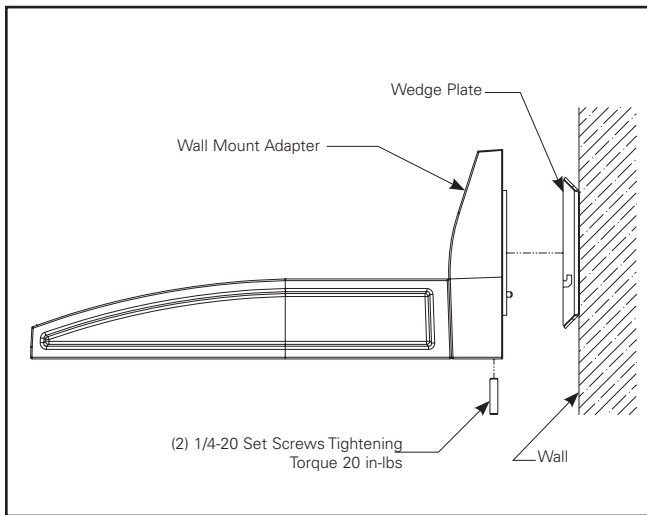

Figure 1.
1. Remove the wedge plate by loosening the (2) 1/4-20 set screws on the fixture with the Allen wrench.
4. Make wiring connections per wiring diagram. (Figure 1)